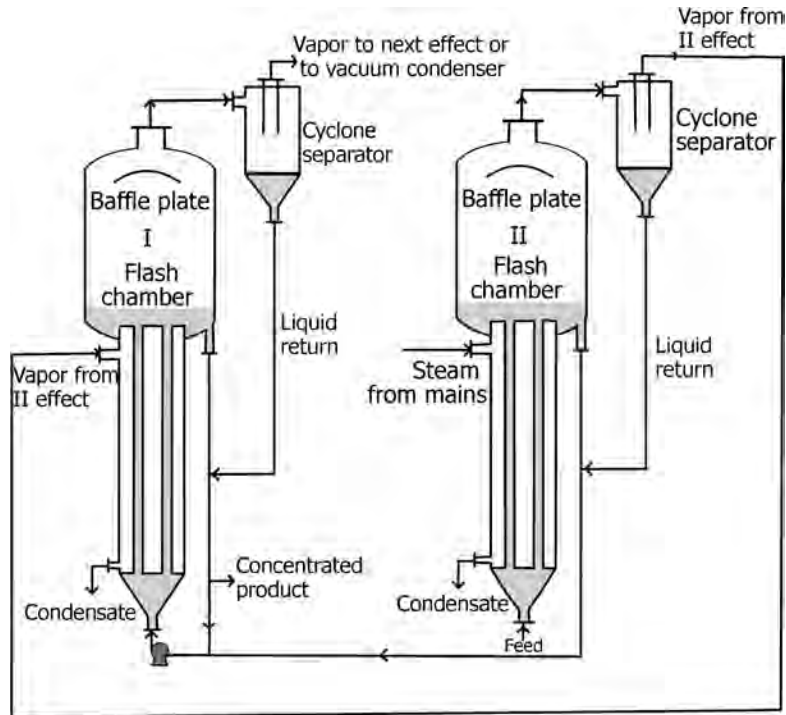

FIGURE 11.24 Backward feed operation for a double effect evaporator.
- Figure 11.24 illustrates backward feed operation for a double effect evaporator.